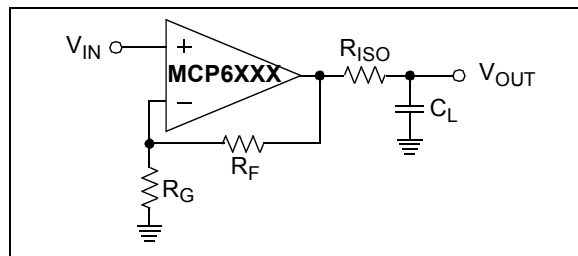
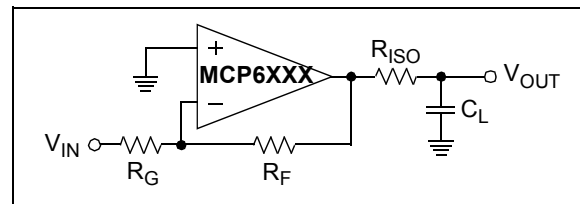

FIGURE 7: Compensated capacitive load.
FIGURE 12: Compensated inverting gain circuit.
The simplest compensation method for capacitive loads is shown in Figure 7. The resistor R_{ISO} is used to load down the LC resonant circuit, which reduces frequency response peaking. As can be seen, R_{ISO} does not change the DC response or power and only costs one additional resistor.
Inverting gain circuits (see Figure 12) are compensated in the same way as non-inverting gain circuits. Since the inverting input of the op amp is at virtual ground, the load presented to the output by the feedback network is now R_F instead of $R_F + R_G$. Thus, we need to set $R_F \gg R_{OUT}$. Use the noise gain:
In Figure 7 and Figure 12, the op amp will produce an output current (I_{OUT}) that goes into C_L . This current cannot exceed the op amp's output short circuit current (I_{SC}). This current limit causes the output slew rate to be limited (SR_{CL}). Note that SR_{CL} is independent of the op amp's internally-set slew rate (SR). We can derive SR_{CL} as follows.
Another solution is to add R_{ISO} , as shown in Figure 7 and Figure 12. The maximum current occurs when $V_{OUT}(t) = 0$; at this point the voltage across R_{ISO} is V_M . Thus, we need
One solution to this problem is to use square waves with lower edge rates (higher t_r). Filtering the square waves (lowpass filter bandwidth $< 0.35/t_r$) is another approach. Using slower logic gates may be a solution in some cases. It is also possible to add R_{ISO} , as shown in Figure 7 and Figure 12. The maximum current occurs when the ideal output just reaches the new level and $V_{OUT}(t)$ is still slew rate limited. To keep $I_{OUT} < I_{SC}$, we need:
Figure 7 and Figure 12 show the circuits under discussion. There will be no DC load current because C_L blocks DC. At low frequencies, I_Q (op amp's quiescent current) and C_L will dominate the output current behavior. At high frequencies, R_{ISO} will dominate.